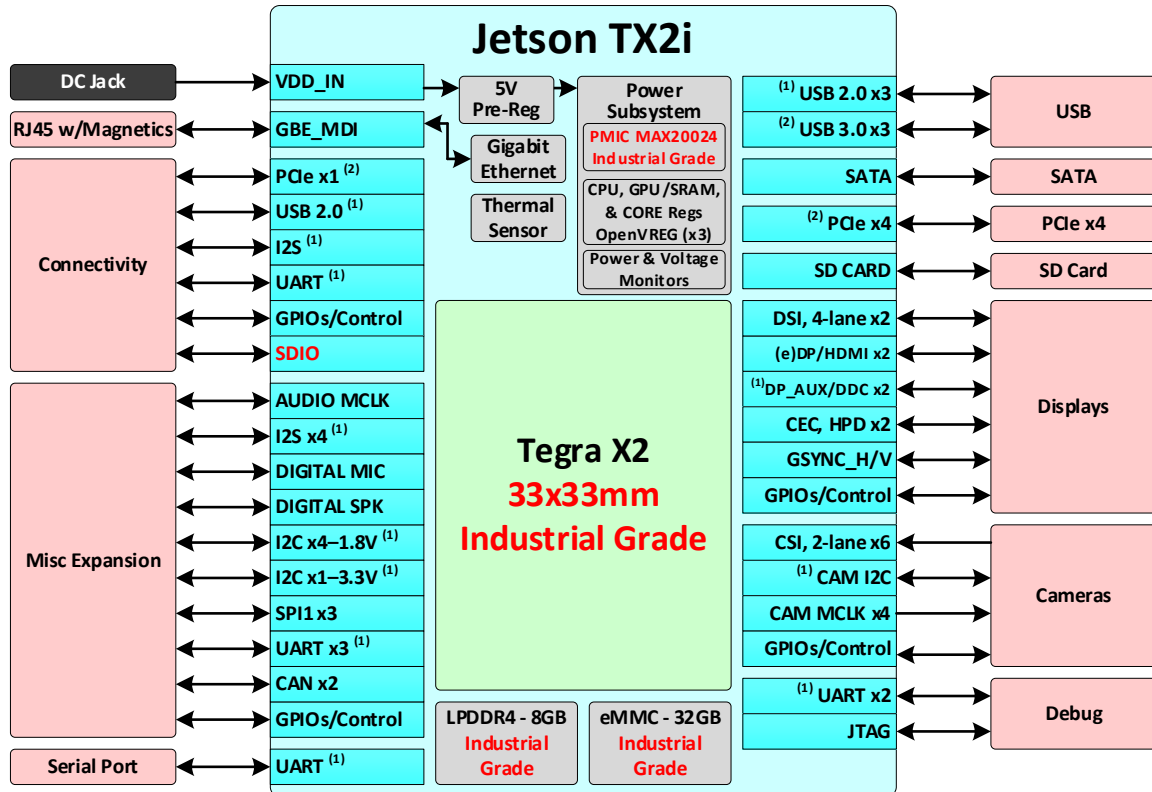

Figure 2. Jetson TX2i Block Diagram
2. USB 3.0, and PCIe, share lanes. Not all instances shown in Figure 2 can be brought out together. See the USB 3.0, PCIe, and SATA lane mapping configuration tables in the "USB 3.0, PCIe, and SATA Mapping" section.
3. Additional components not shown in Figure 2 have been changed to industrial grade.